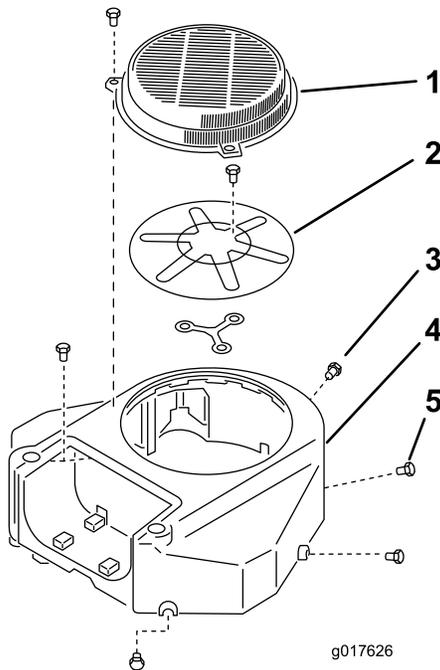

Figure 60
3. Remove the air intake screen and fan housing (Figure 60).
5. Install the air intake screen and fan housing (Figure 60).